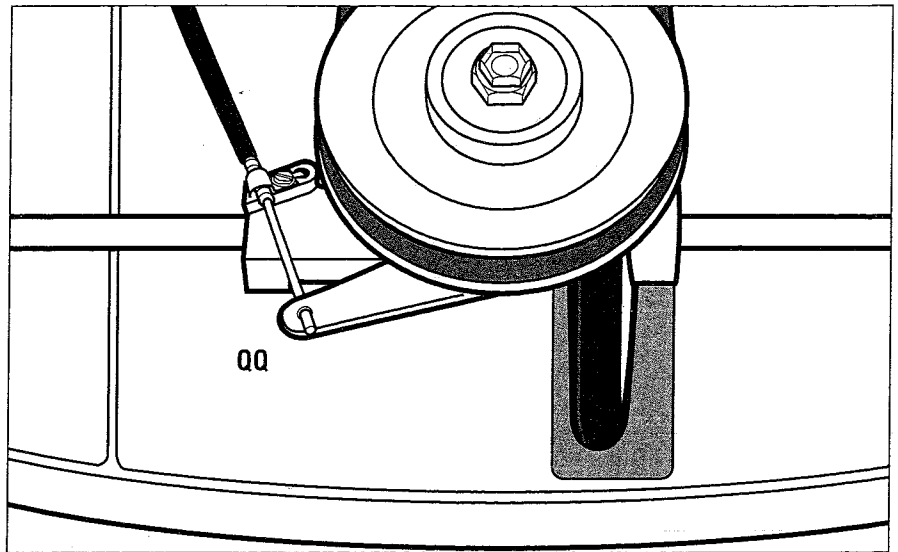

Fig. 11
1. Install the "Z" fitting at the end of the clutch cable (QQ, Fig. 11) up and through the ramp arm.